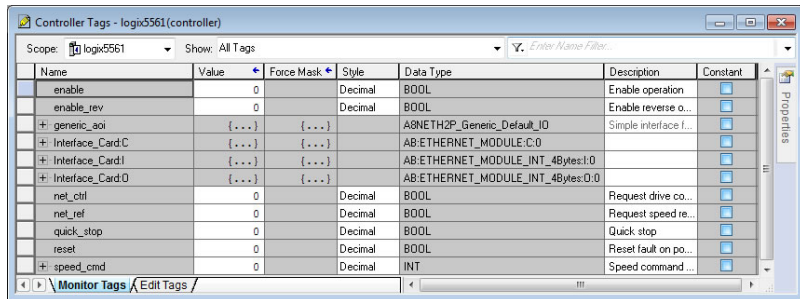

Figure 48: Create Generic Default AOI Tags
- 4) Create the tags shown in Figure 48.